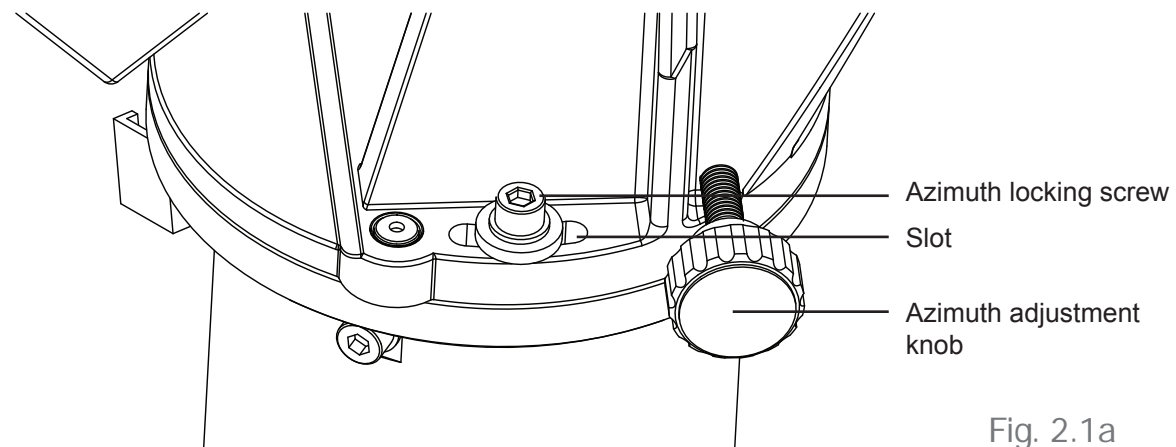

Fig. 2.1a
2. Loosen the primary locking knob and both azimuth locking screws; and then use the azimuth adjustment knobs to put the azimuth locking screws to the middle of the slots (Fig 2.1a). Tighten the azimuth locking screws slightly.